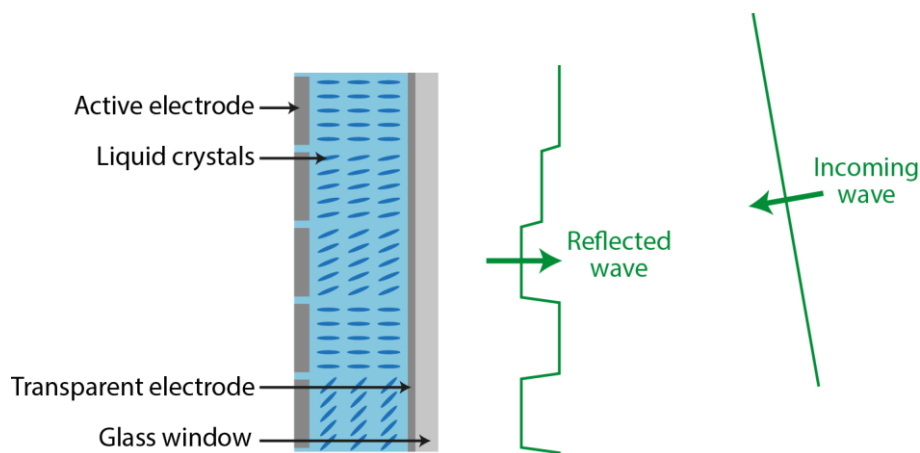

Figure 8: Schematic illustration of a liquid crystal modulator
An ideal SLM would modulate the phase and amplitude with high speed, resolution and accuracy. Practical SLMs are limited by current technology and usually fulfil only part of these criteria. In this lab, we use a phase-only liquid crystal modulator. This is a two-dimensional array of millions of liquid crystal cells (pixels). The orientation of the liquid crystals inside each cell can be independently controlled, thereby varying the phase delay of the light travelling through the cell, as shown in Figure 8. The result is a device that can create 2D distributions of phase.
- g) When you display the patterns on the SLM, does all of the light get modulated? Turn off the lights around the experiment to see this more clearly. Give one possible reason based on the device structure shown in Figure 8.